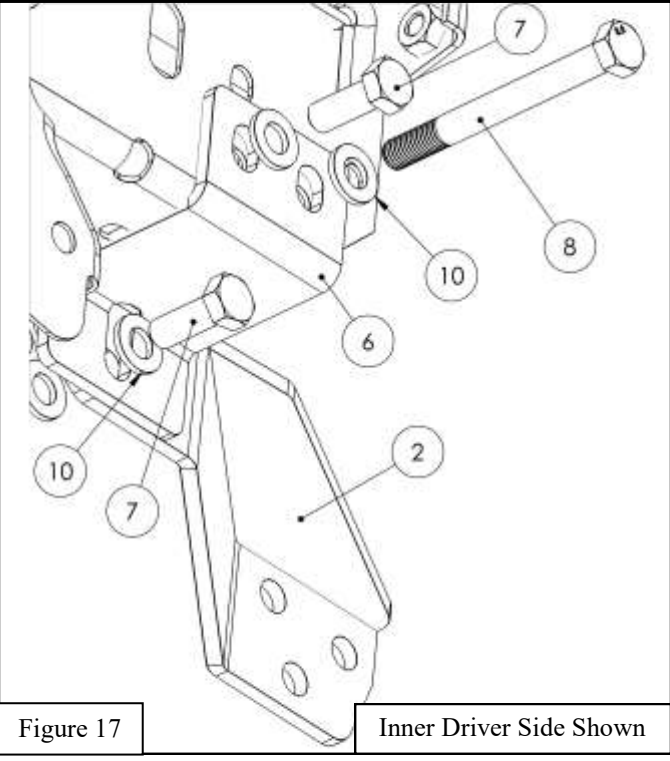

Figure 17 Inner Driver Side Shown
22. Install the Lower Mounting Brackets (Items 2-3) and Lower Support Straps (Item 6) to the frame using the supplied M12 Hardware. See **Figures 17 through 19** for reference. **Note:** *The vehicle frame rails are not opposite of one another.*